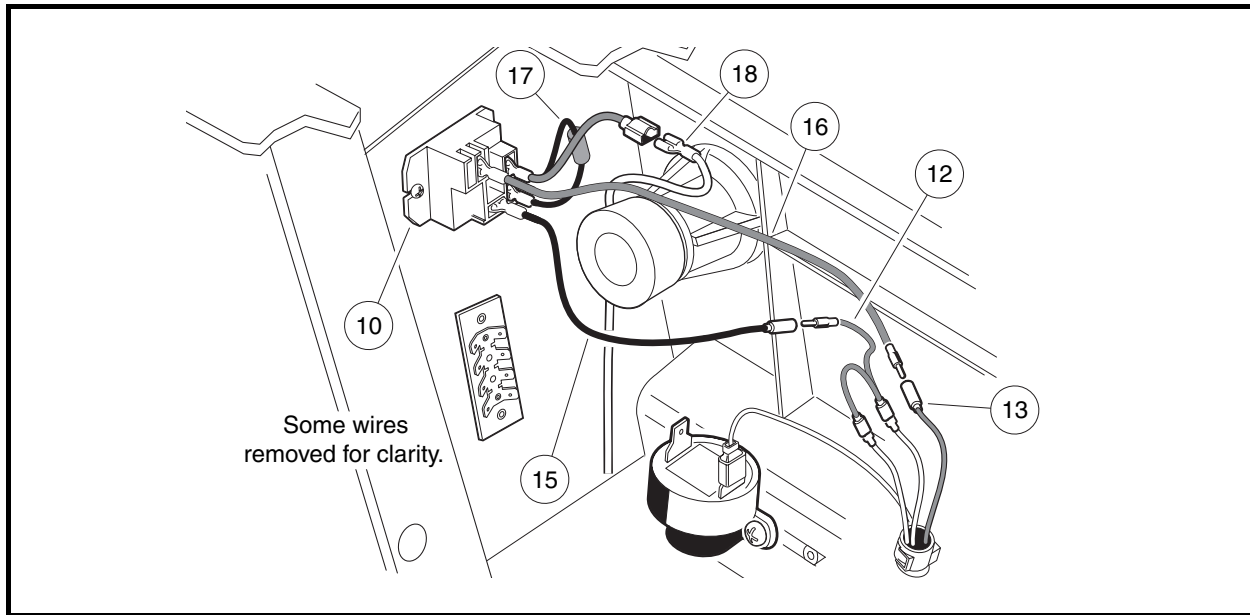

Figure 11-33 Brake Light Relay Test
- 6.1. Remove the voltage suppressor wires (17) from the relay coil terminals (**Figure 11-33, Page 11-33**).
- 8.2. Locate the red jumper wire (12) in the area behind the center dash panel (**Figure 11-33, Page 11-33**).
- 8.5. Bypass the relay by connecting the red jumper wire (12) to the brown wire (13) as shown (**Figure 11-33, Page 11-33**).
- 12.1. Disconnect the voltage suppressor assembly (17) from the relay coil terminals (**Figure 11-33, Page 11-33**).